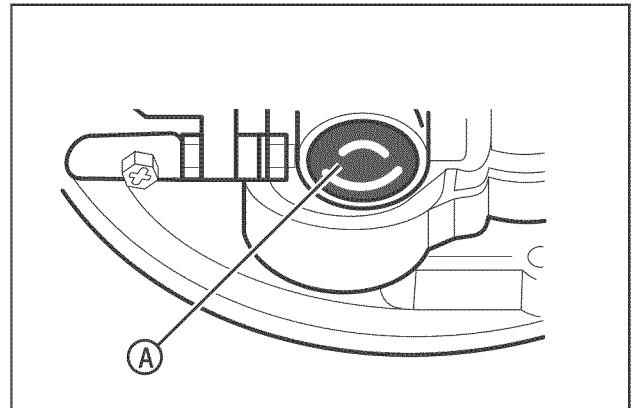

Figure 13: The engine primer button
5. The primer button (A, Figure 13) is on the side of the engine. Push the primer button. Every time you push the primer button, wait two seconds. For the number of times required to push the primer button, see the engine manufacturer's instructions.